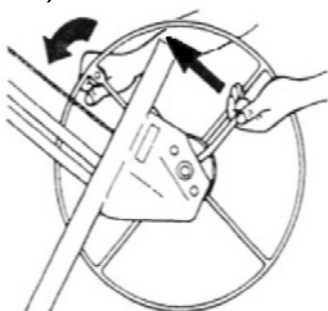
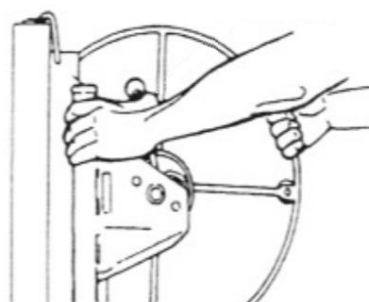

Figure 2
Figure 3
- Move the winch assembly [10] into working position by holding the wheel [16] and brake handle [18] as shown in figure 2. Push the brake handle all the way up while rotating the wheel slightly forward, grab the winch arm and secure the brake handle with your thumb to prevent backlash (figure 3).